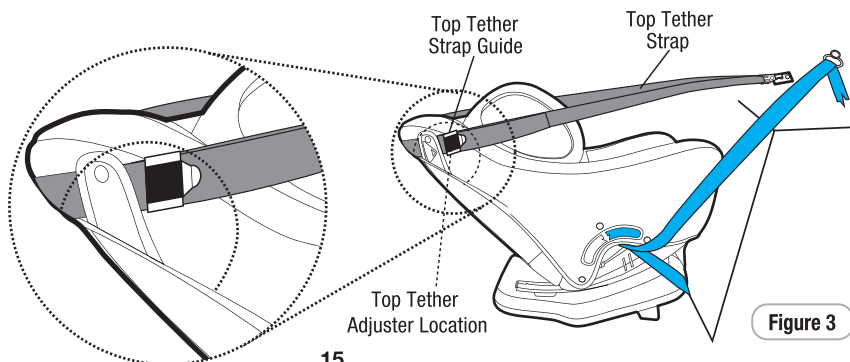

Figure 3
Step 3: Locate the adjuster at the side of the restraint and secure using the top tether strap guide (refer Figure 3).